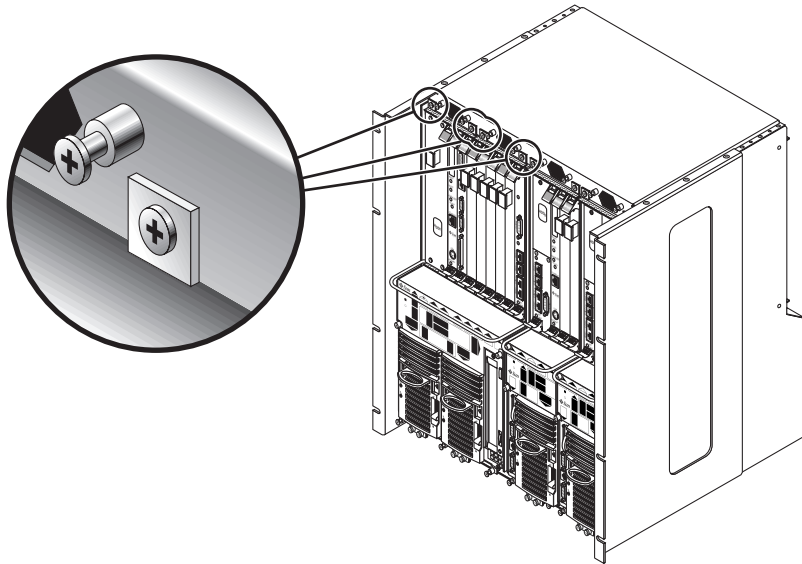

FIGURE 3-3 Loosening the Screws at the Top of a Netra CT 810 Server
- If you are removing a Netra CT 810 server, loosen the *four* black captives screws at the top of the server (FIGURE 3-3).